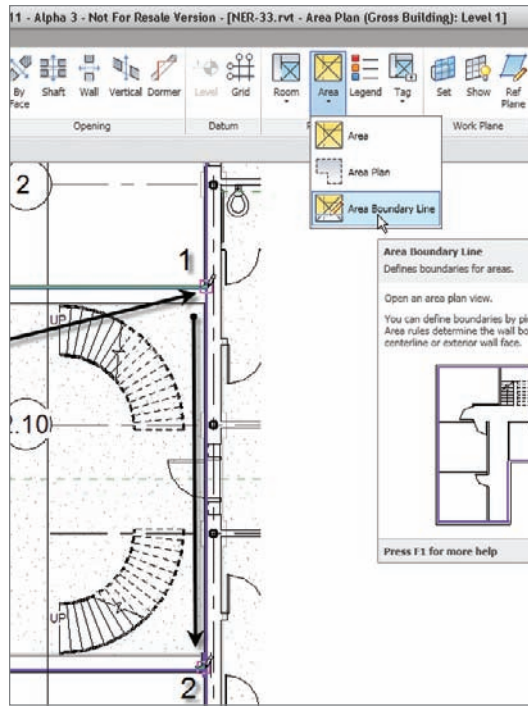

FIGURE 15.28 Drawing the area separator
5. On the Room & Area panel, click the Area Boundary Line button, as shown in Figure 15.28.
6. Draw a line, as shown in Figure 15.28, separating the corridor from the east wing.